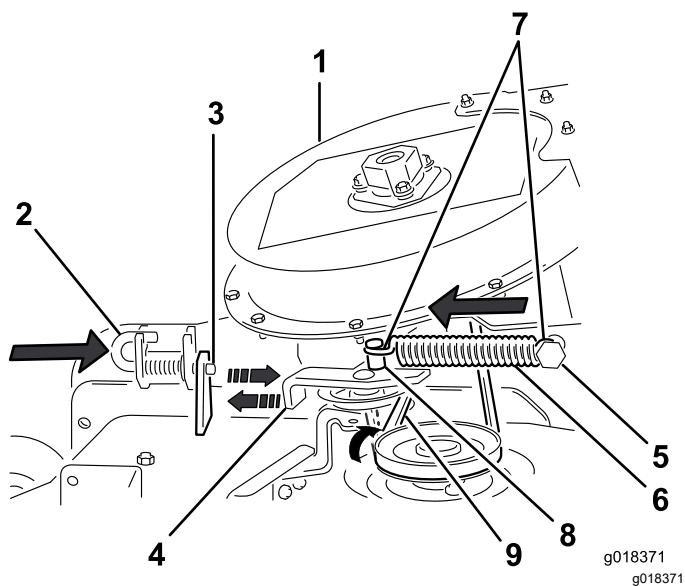

Figure 30
2. Temporarily route the belt beneath the idler pulley (Figure 30).
3. Move the idler-pivot bracket toward the fixed spring post and install the spring by aligning the spring hook onto the idler-spring post (Figure 30).
4. Pull the spring-loaded idler pulley away from the fixed spring post, and route the belt around the deck pulley (Figure 30).